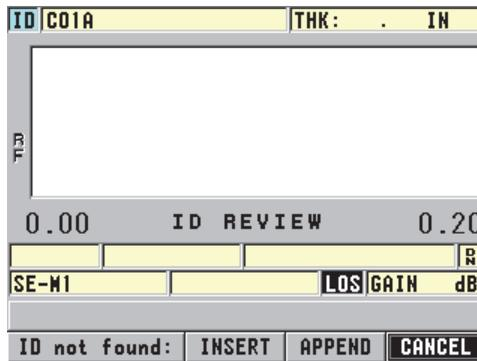

Figure 6-38 The message when the edited ID is not in the database
6. When the edited ID is not in the database, the help text bar message shown in Figure 6-38 on page 115 appears. Select **INSERT** to insert the new ID in front of the active ID.